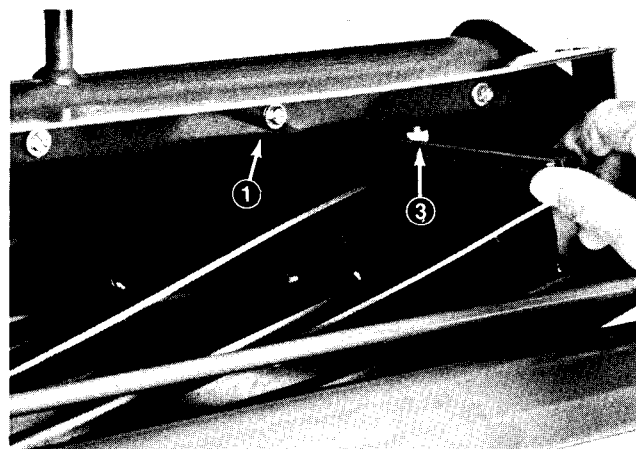

Figure 17
1. Loosen screws securing top bar (Fig. 17). Insert 0.060 inch feeler gauge between top of reel and bar and tighten screws (Fig. 17). Make sure bar and reel are equal distance apart across complete reel.